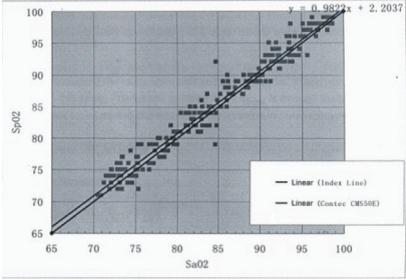
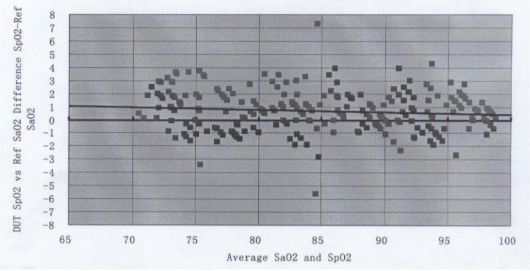

Figure 2 SpO₂ regression plot
Figure 3 Bland–Altman plot
- Measurement Accuracy:** ±2% in stage of 70%-100% SpO₂, and meaningless when stage being smaller than 70%. ±2 bpm or±2% (select larger) for Pulse Rate. Clinical Trial :SpO₂ regression plot & Bland–Altman plot,Refer to Figure 2 & Figure 3.